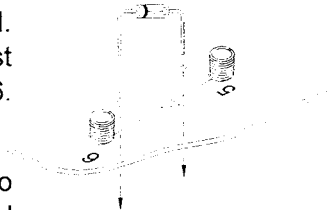

Figure 9
- From the top of the Cardboard panel, insert the two leads of the diode through the holes next to the schematic symbol. The Banded end must connect to terminal 6. (See Figure 9.)